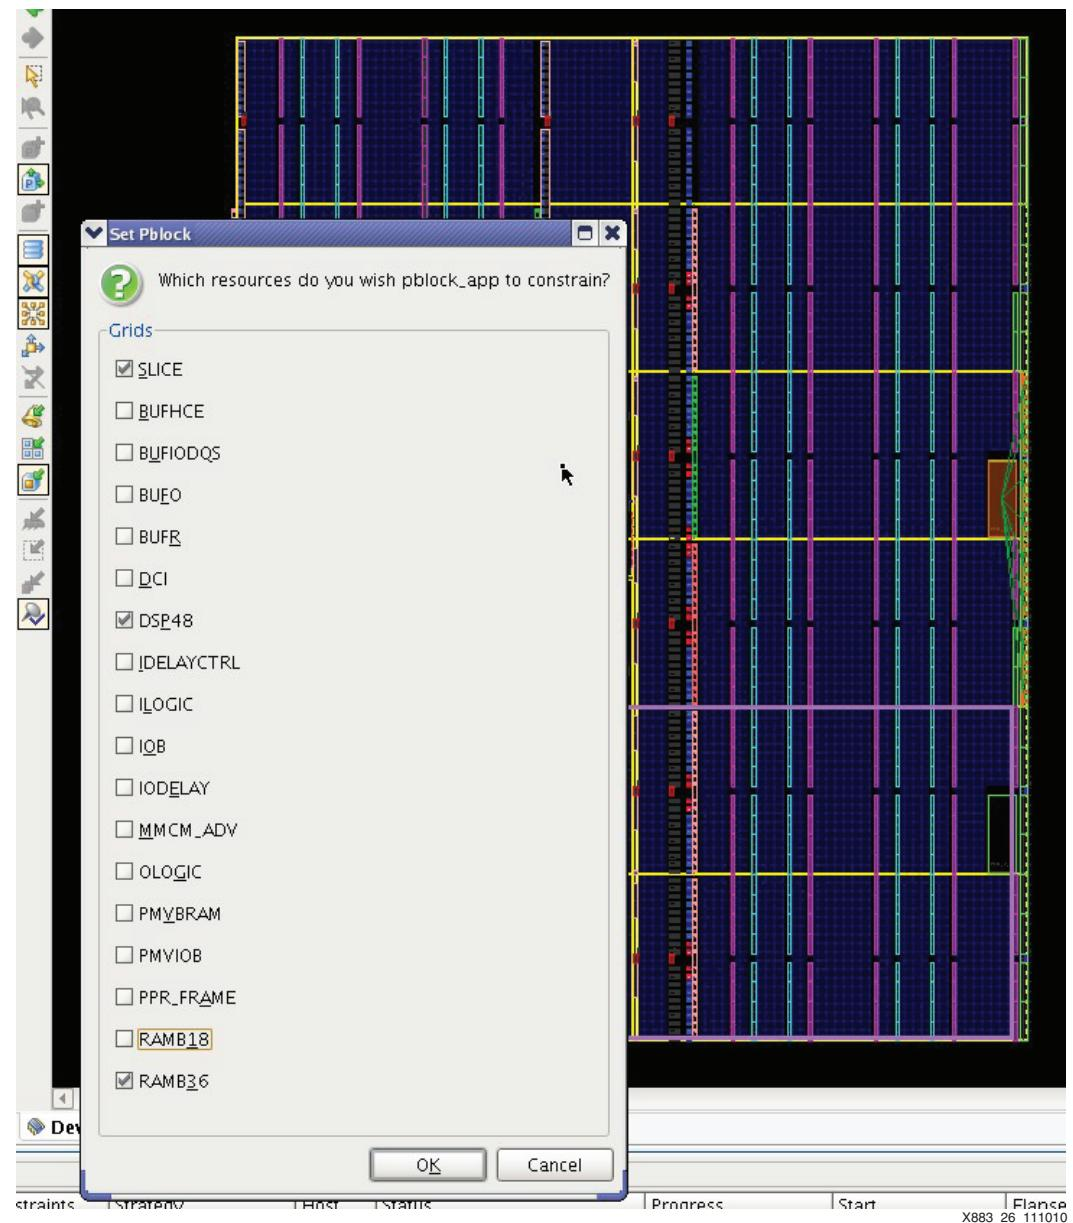

Figure 26: Setting Pblock Resources
4. After drawing the bounding box, select only the **SLICE**, **DSP48**, and **RAMB36** resources for the area group (see Figure 26).